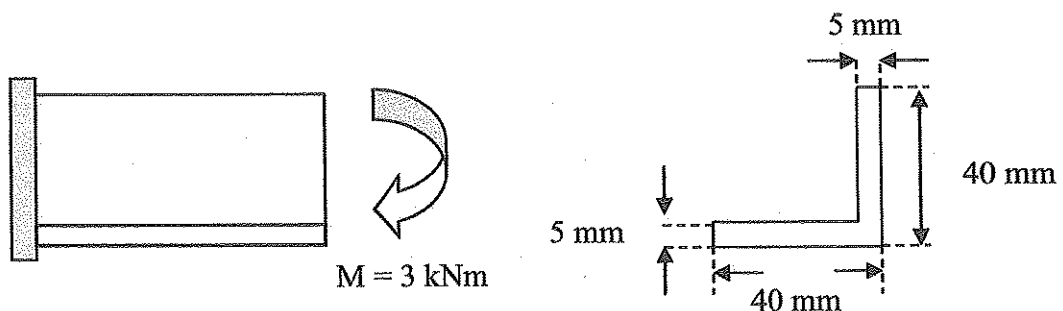

Figure 3(b)/Rajah 3(b)
- (b) A cantilever beam with L cross section is loaded with 3 kNm as moment at the edge as shown **Figure 3(b)** above. Given $E = 165 \text{ GN/m}^2$ and determine:
- (c) A simply support beam shown in Figure 3(c) is loaded with Uniformly Distributed Load. Based on the figure, calculate the slope and deflection at position 3 m from point A by using Double Integration Method.